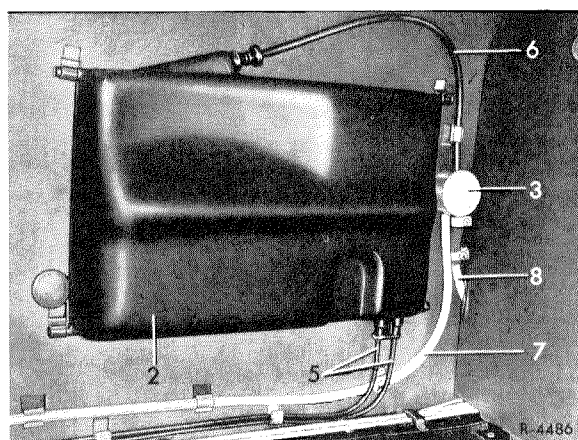

Fig. 47-2/5
If the pressure in the valve system (3) is 0.035 to 0.050 kp/cm², or 0.055 kp/cm² in Models 280 SE/9 3.5 and 300 SEL/9 3.5, the pressure relief valve (c) will open and permit the fuel evaporations to flow into the ambient air via the venting line (7) (Fig. 47-2/5).